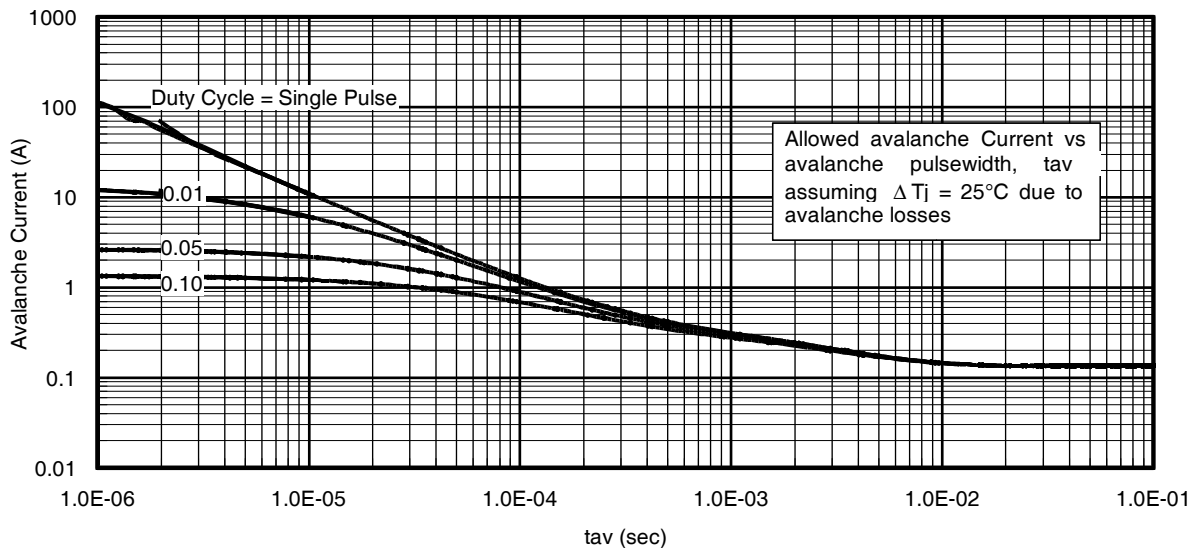

Fig 14. Typical Avalanche Current Vs. Pulsewidth
- ① Repetitive rating; pulse width limited by max. junction temperature. ④ R_{θ} is measured at T_J of approximately 90°C .
② Starting $T_J = 25^\circ\text{C}$, $L = 1.62mH$, $R_G = 25\Omega$, $I_{AS} = 11A$. ⑤ Limited by T_{jmax} . See Figs. 14, 15, 17a, 17b for repetitive avalanche information.
③ Pulse width $\leq 400\mu s$; duty cycle $\leq 2\%$.
Notes on Repetitive Avalanche Curves , Figures 14, 15:
7. ΔT = Allowable rise in junction temperature, not to exceed T_{jmax} (assumed as 25°C in Figure 14, 15).